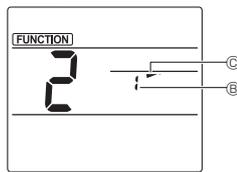

Fig. 5-2
- In the Function setting screen, press the **DOWN** button ④ and select function No. "2".
- Press the **SET** button ③.
- The vane number ⑥ blinks. (Fig. 5-2)
- Press the **DOWN** button ④ to select the vane number.
- The airflow direction setting ⑦ blinks. (Fig. 5-2)
- Press the **DOWN** button ④ to select the airflow direction at which you want to fix the vane.